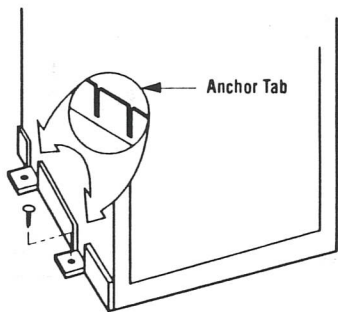

Figure 18
Step 4. Firebox may be anchored to floor. Bend down four (4) anchor tabs located at the base of the firebox and secure to the floor by nailing with 8d nails (*Figure 18*).